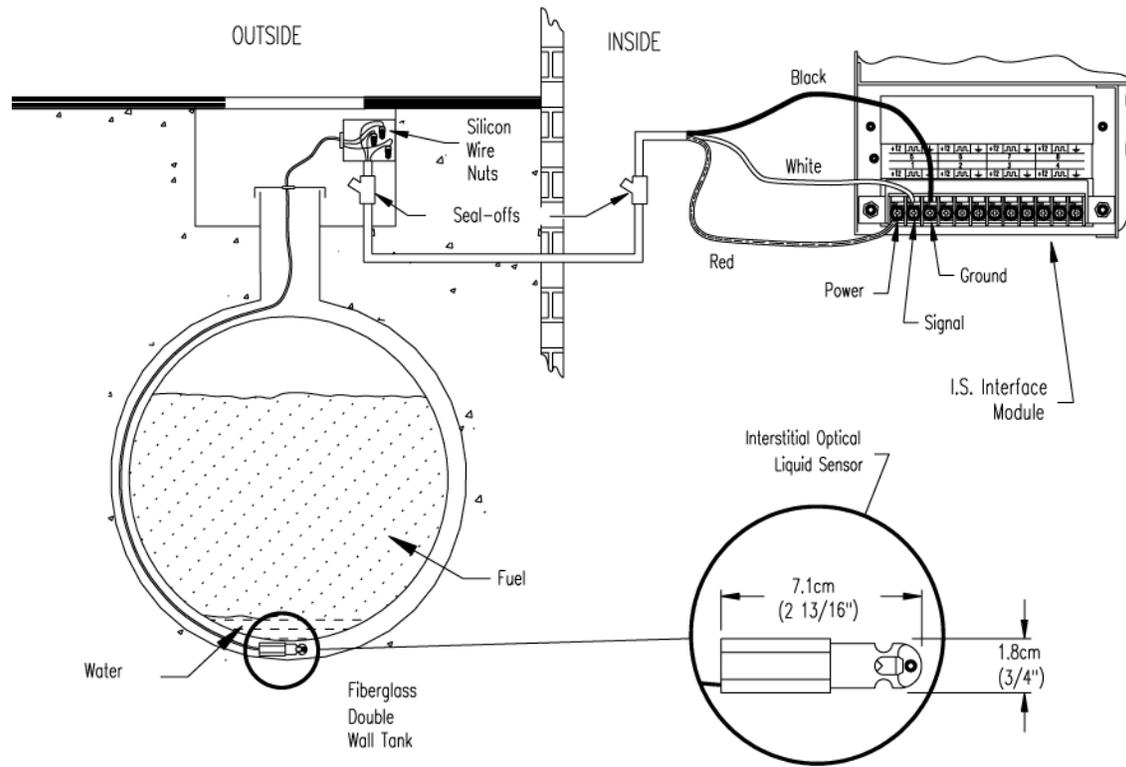

Figure 13-19 Interstitial Optical Liquid Sensor Installation
- Review Figure 13-19 on page 67.